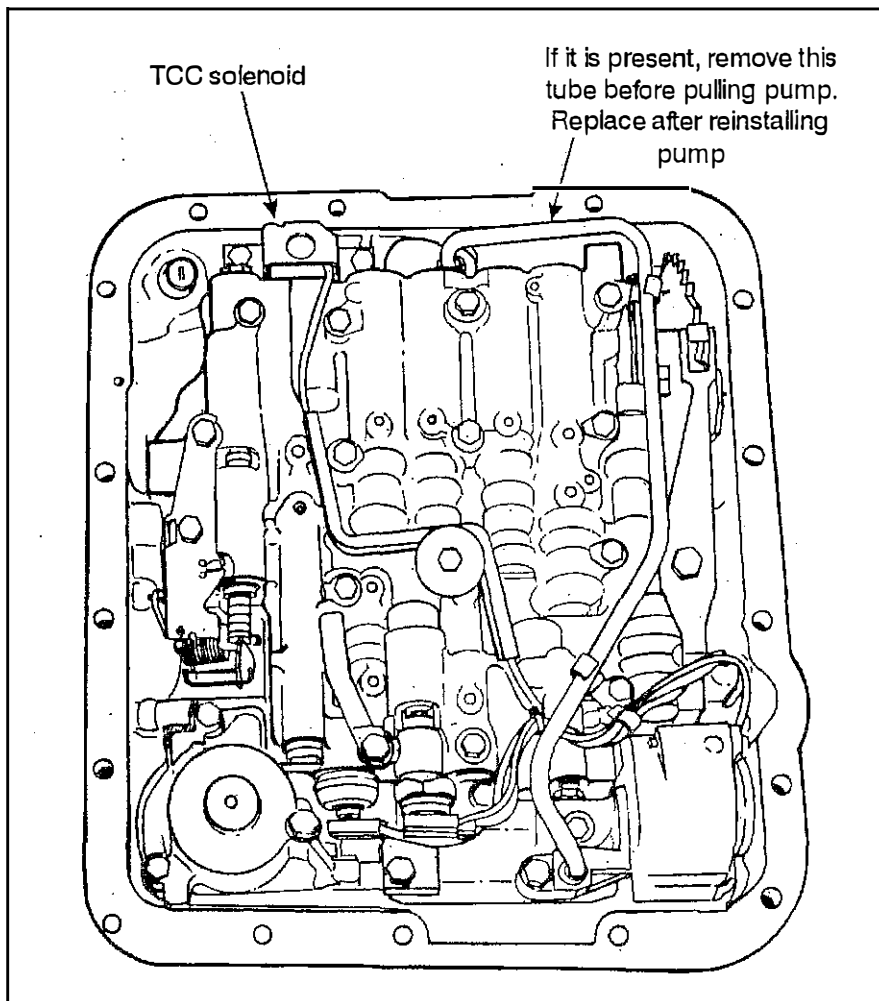

Figure 5
STEP 11. Place transmission on bench valve body side up. Remove two bolts holding TCC (Torque Converter Clutch) solenoid then remove solenoid from pump bore see (Fig 5). Remove auxiliary valve body crossover tube if present.